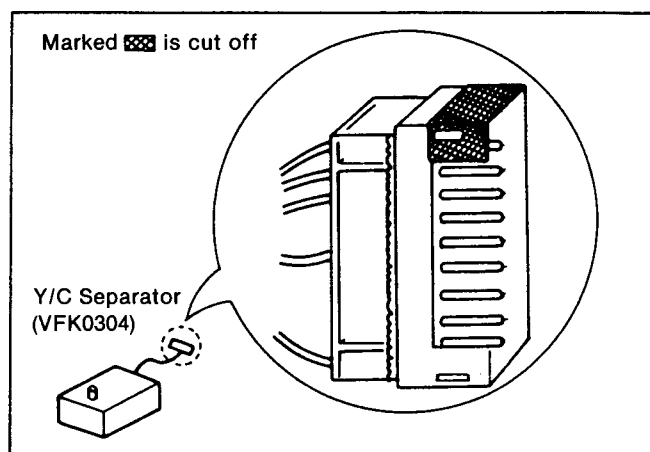

Fig. S7
*Cut off the marked portion of Y/C Separator output connector as shown in Fig.S7